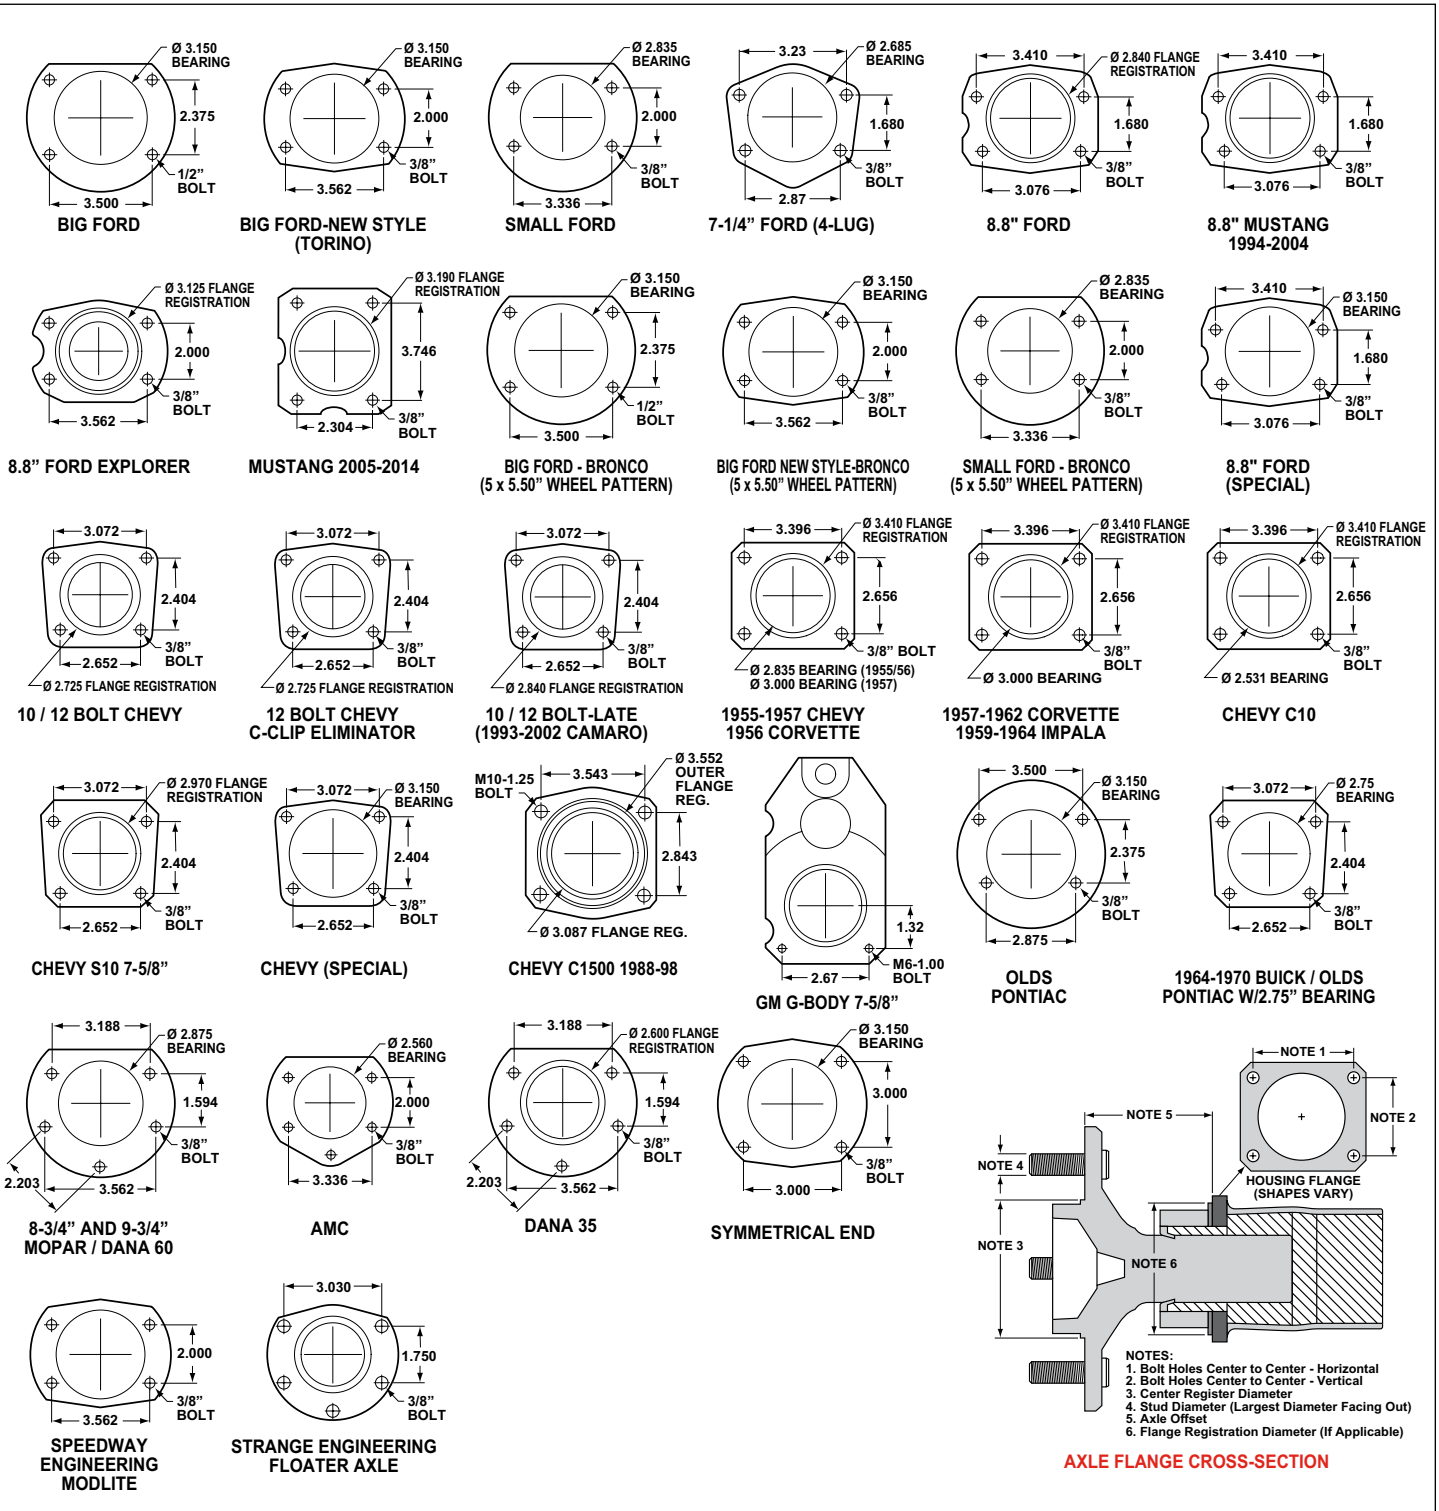

Figure 8. Rear Housing Flange Chart and Axle Flange / Offset Cross-Section
- Dimension from wheel side of axle flange to wheel side of axle housing flange (see Figure 8, lower right hand corner). This dimension is critical to ensure proper alignment of the rotor to the caliper, and should match offset given in the kit description.